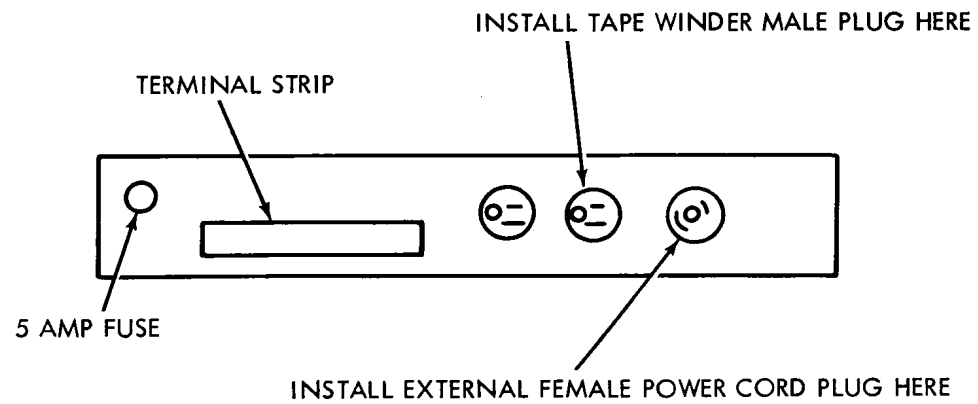

Figure 7 - Cabinet Service Panel
A. External Power Line (See Figure 7)